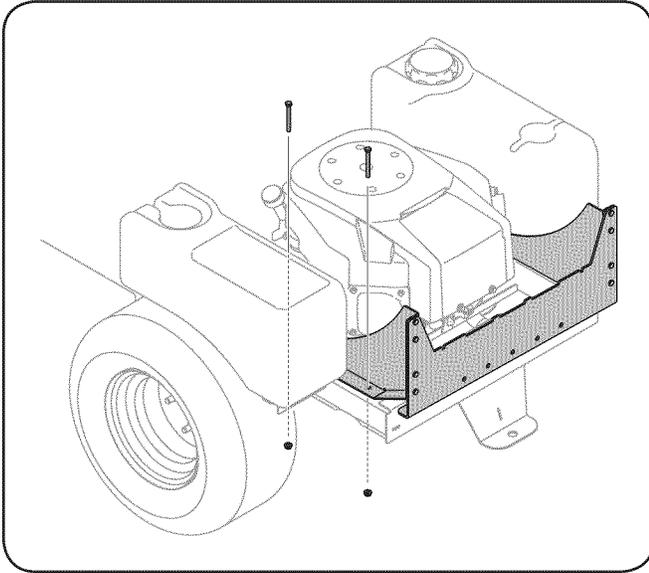

Figure 4-4
1. Attach the mounting bracket assembly to the frame rails of the tractor by aligning the mounting brackets with the provided holes on your tractor, as seen in Fig. 4-4. Secure with four 710-0176 hex head screws, fed down through the frame and secured with four 712-3004A flange lock nuts.